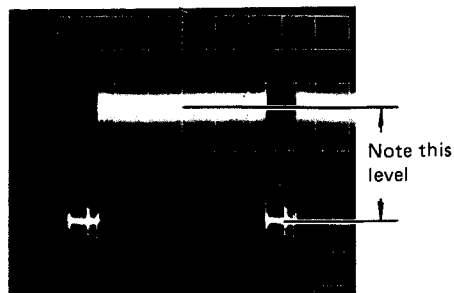

Fig. 5-6-4
- o Short TP1 (PRESET) and TP2 (PRESET) on the Auto (A) board for a few seconds to initialize the microprocessor.
- o Connect the oscilloscope to TP9 (G OUT) and trigger the oscilloscope at H rate (Use TP9 (BL), Deflection board.).
- o Set the High Gain Selection Switch on the side of the camera to 0 dB position and note the pedestal level at T9 (G OUT). (Fig. 5-6-4)